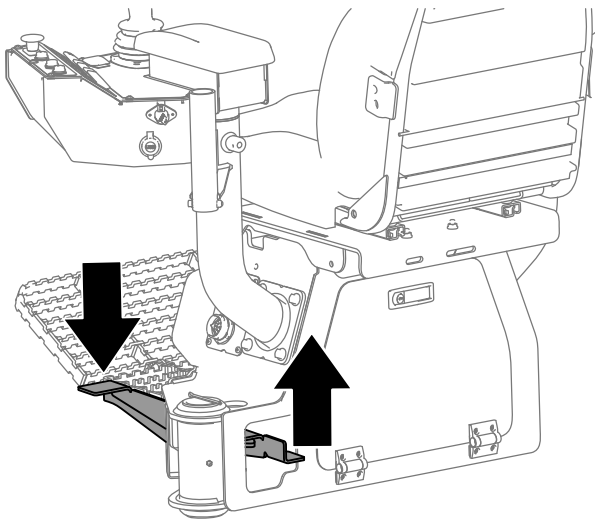

Figure 58
5. Push down on the operator platform latch and swing the platform out to the desired position, ensuring that it locks in place (Figure 58).